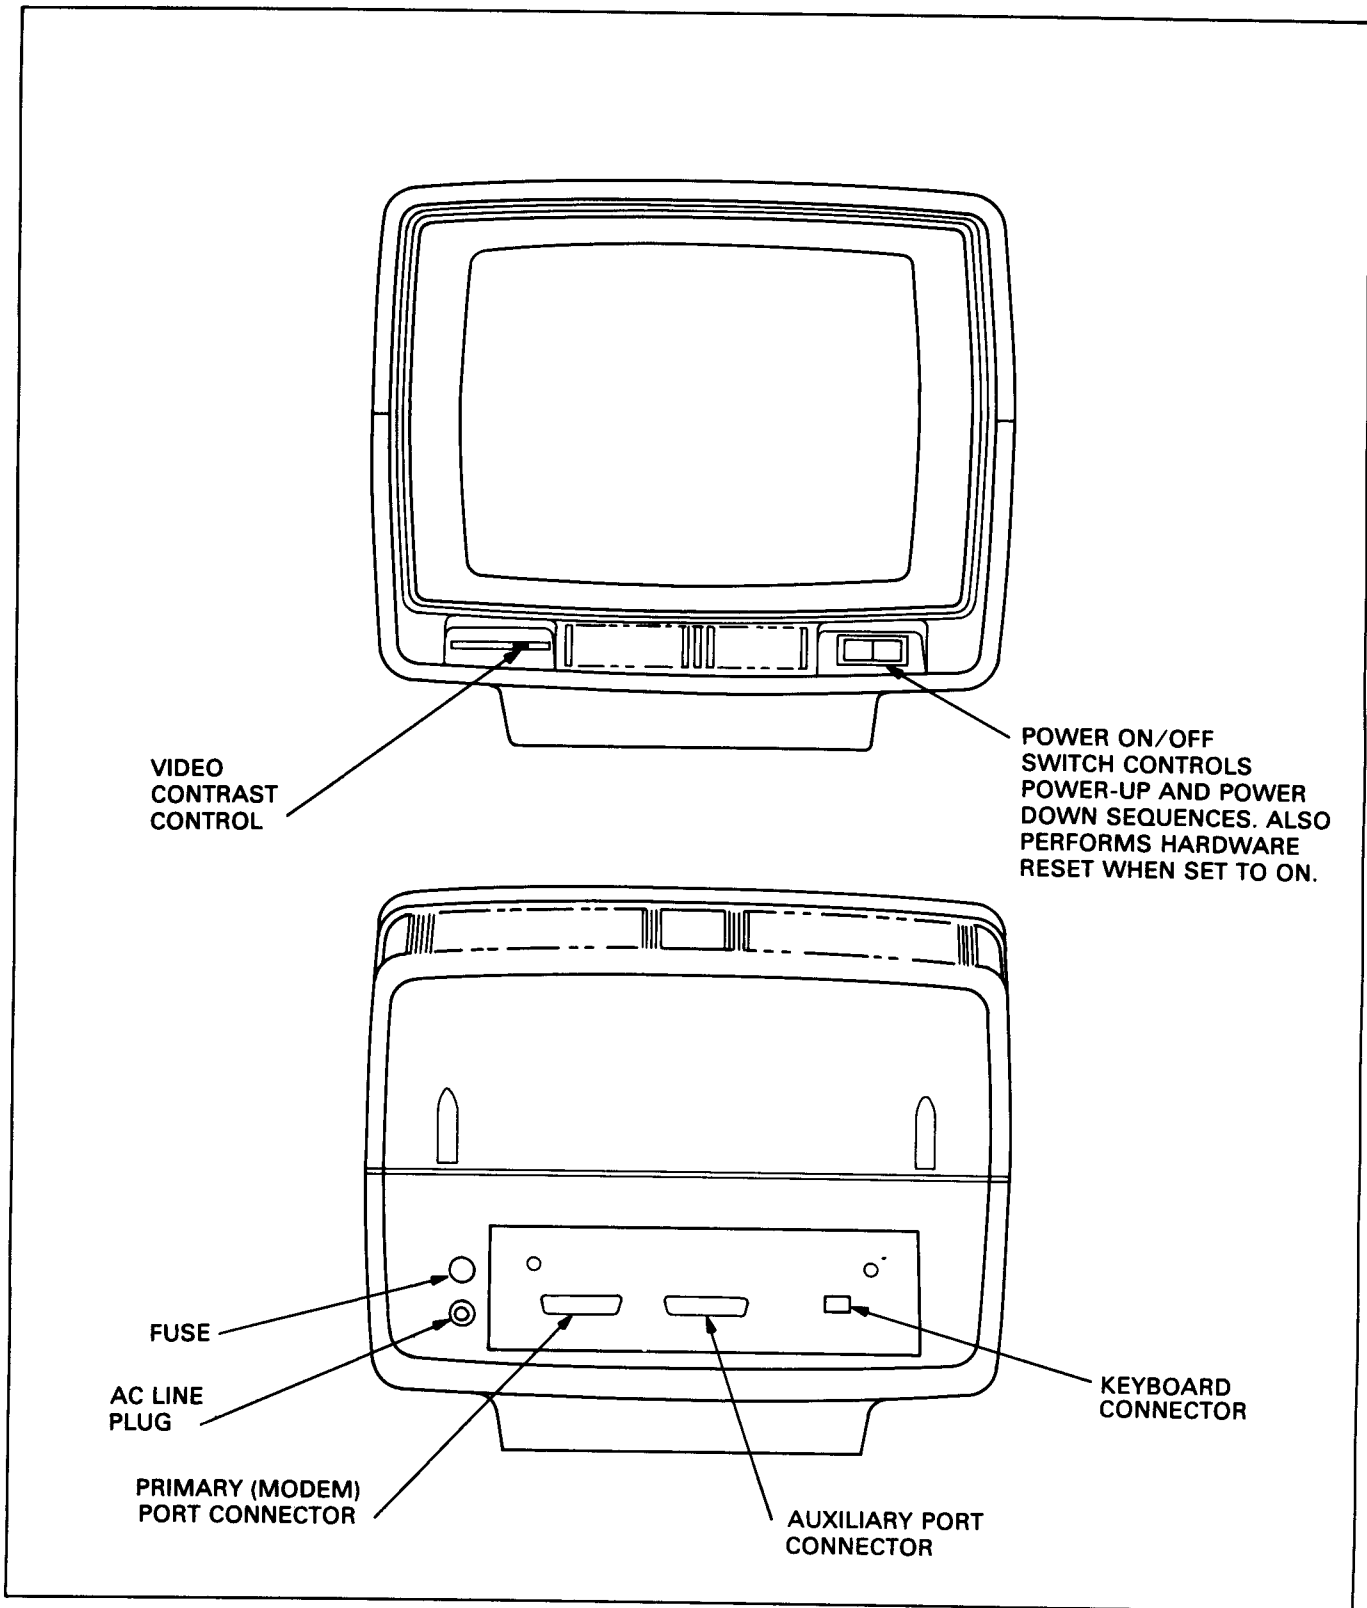
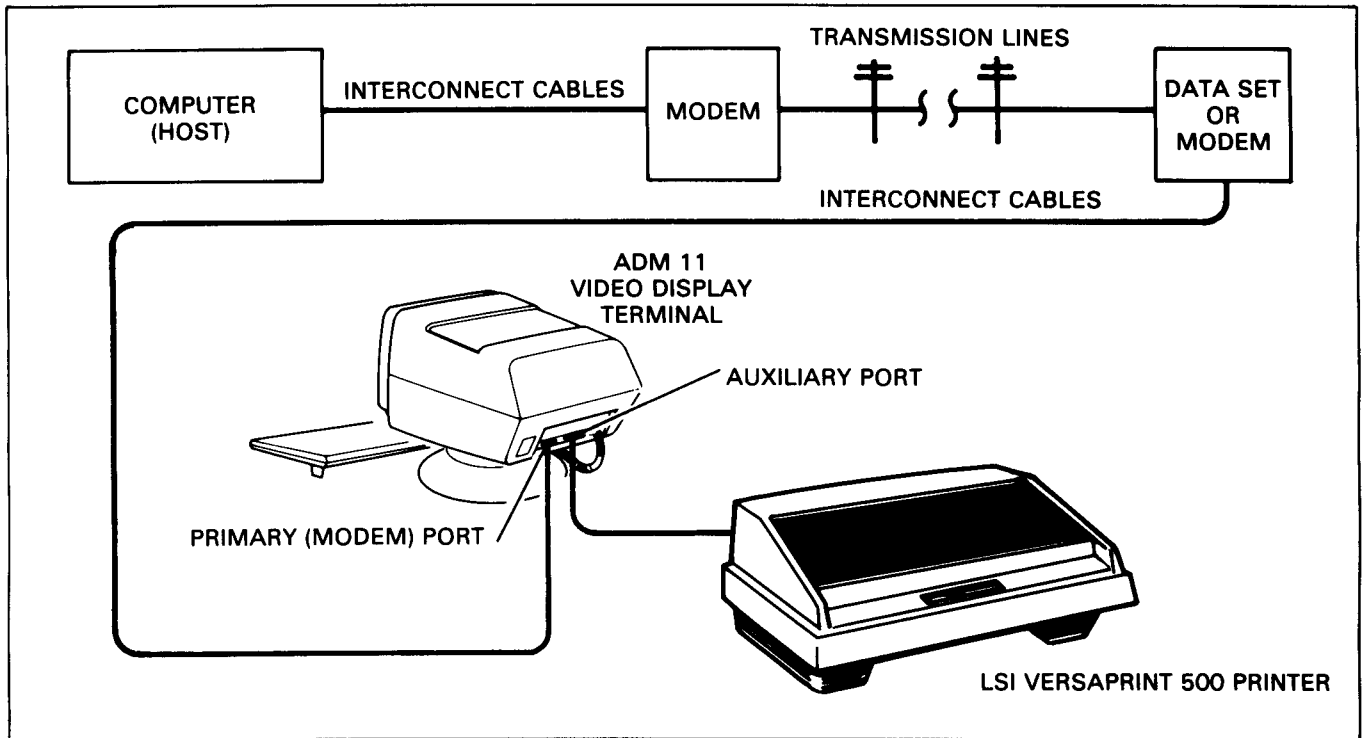

Figure 2-2. ADM 11 Controls and Connectors
Figure 2-3. Typical ADM 11 Applications
Before applying power to the terminal, plug the keyboard coiled cord into the connector on the back of the monitor. Refer to **figure 2-2, page 2-4** for connector location.
The ADM 11 may be cabled directly to a local computer, serial printer (or other auxiliary device), or it may be connected via telephone data lines to a remotely located computer. Remote computer connections require the use of a modem or data set. **Figure 2-3 on page 2-5** shows a typical ADM 11 application. **Figure 2-2** shows the rear panel locations of the interface connectors. **Figure 2-4/5** shows the logic associated with these interfaces.
1. Check the ON/OFF switch on front of unit. Refer to **figure 2-2** to ensure that it is set to OFF.
1. Set the ON/OFF switch on the front of the unit to ON (refer to figure 2-2).
5. Adjust CONTRAST control (figure 2-2) for desired display brightness.